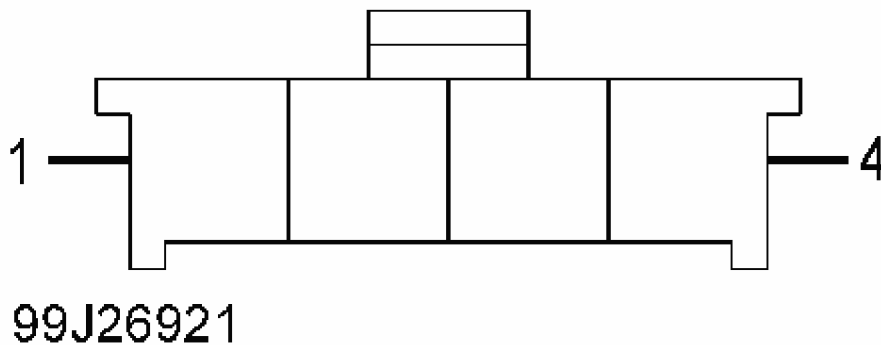

Fig. 56: Identifying SRS Right Side Harness 4-pin Connector & Right Front Seat Harness 4-pin Connector Terminals
5. Turn ignition switch to OFF position. Disconnect SRS right side harness 4-pin connector from OPDS harness 4-pin connector, located under right front seat. Turn ignition switch to ON position. Measure voltage between ground and right front seat harness 4-pin connector terminal No. 3 (if equipped with seat heater), or between ground and SRS right side harness 4-pin connector terminal No. 3 (if not equipped with seat heater). See **Fig. 56** . If battery voltage is present, check connection between OPDS 4-pin connector and right side